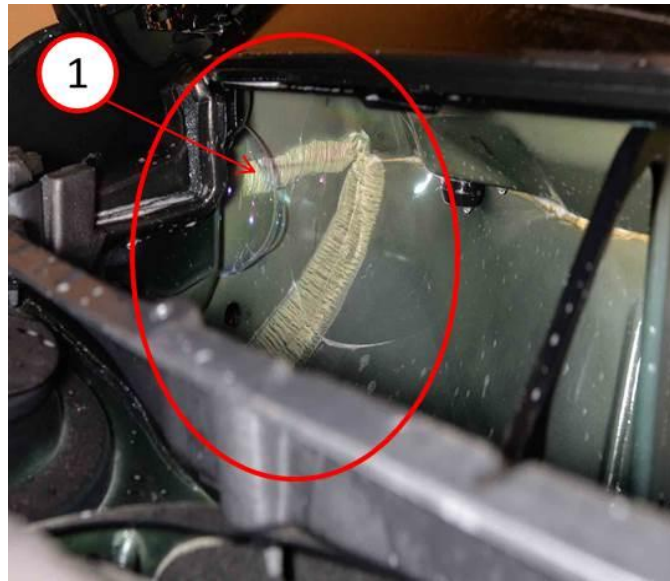

Fig. 8 Air Bubbles At Cowl
9. Is there air/bubbles leaking from the plenum to cowl side (Fig. 8) or is there a seam showing that does not have sealant over it (Fig. 9)?